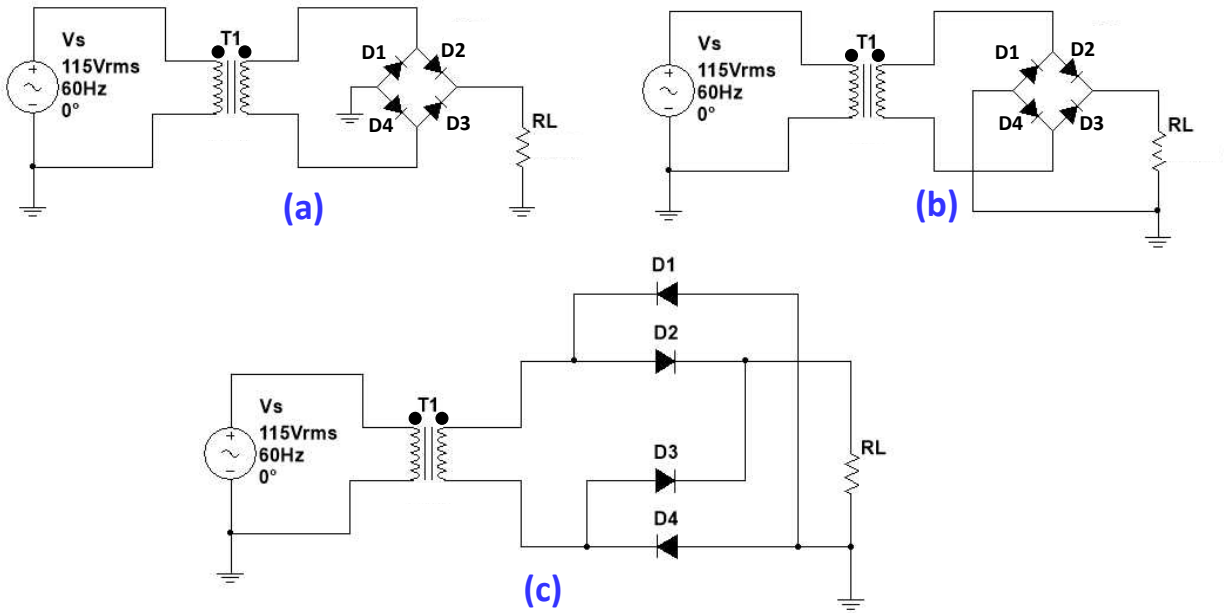

Figure 4-36.
The full-wave bridge rectifier is a popular choice for DC power supply designs. It is the only choice if a center-tapped transformer is not available. Some typical circuits are shown in Fig. 4-36. You should verify the circuits are equivalent. As can be seen in Fig. 4-36, four (4) diodes are required to construct a full-wave bridge rectifier.